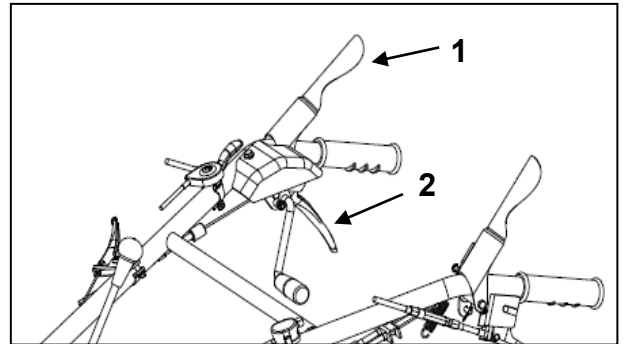

Figure 8
- Push down the blade clutch lever (1, Figure 8) then engage the blade tension lever (2, Figure 8) slowly.